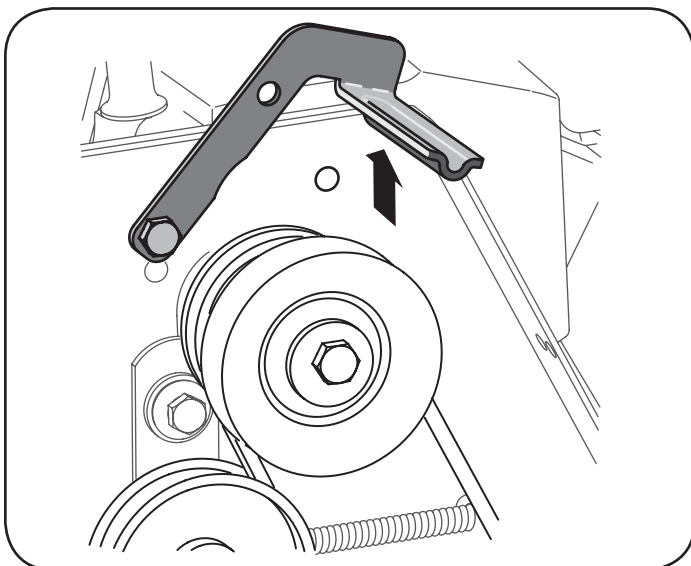

Figure 24
b. Push the belt keeper and bracket up off the engine pulley. See Figure 24.